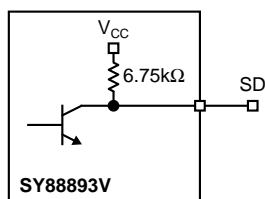

Figure 4. SD Output Structure
The SY88893V generates a chatter-free SD open-collector TTL output with internal 6.75k $\Omega$  pullup resistor as shown in Figure 4. SD is used to determine that the input amplitude is large enough to be considered a valid input. SD asserts high if the input amplitude rises above the threshold set by  $\text{SD}_{\text{LVL}}$  and deasserts low otherwise. SD can be fed back to the enable (EN) input to maintain output stability under a loss of signal condition. EN deasserts the true output signal without removing the input signals. Typically 6dB SD hysteresis is provided to prevent chattering.